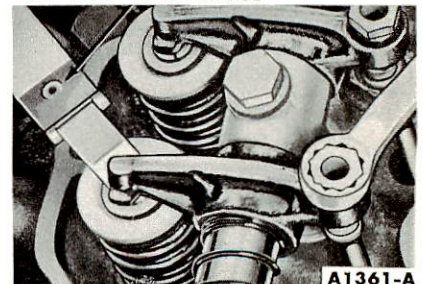

FIG. 10—Valve Lash Adjustment
2. With the engine idling, set the valve lash (Fig. 10) using a step-type feeler gauge only ("go" and "no go").